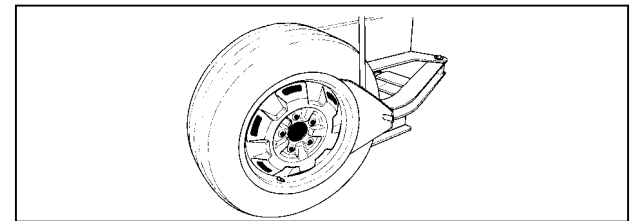

Fig. 9
B. Break both beads (Fig.9).
B. *Détalonner (Fig.9).*